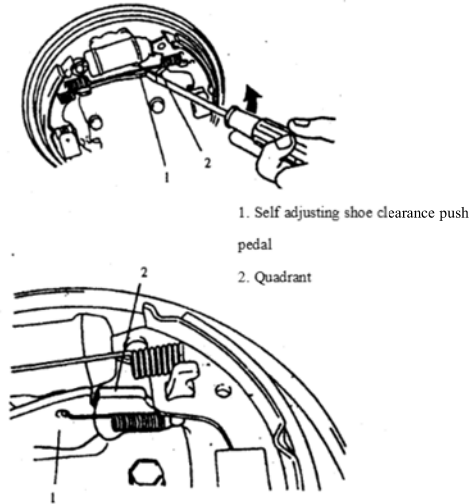

Fig.3.4-5
12) In order to maximize the clearance between parking brake shoe and parking brake drum, put the screw into the self adjusting meshing position of brake clearance and push the gear segment according to the method indicated below before installing the brake drum (Fig.3.4-5).